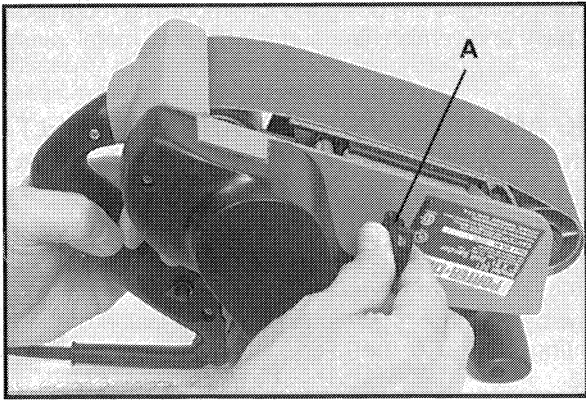

Fig. 3
2. Turn machine over, grasping rear handle with left hand so last two fingers rest on trigger switch (Fig. 3).
4. Turn the belt aligning screw (A) in either direction until edge of belt runs flush with outer edge of rear rubber covered pulley. The edge of the belt will extend beyond edge of the front pulley.